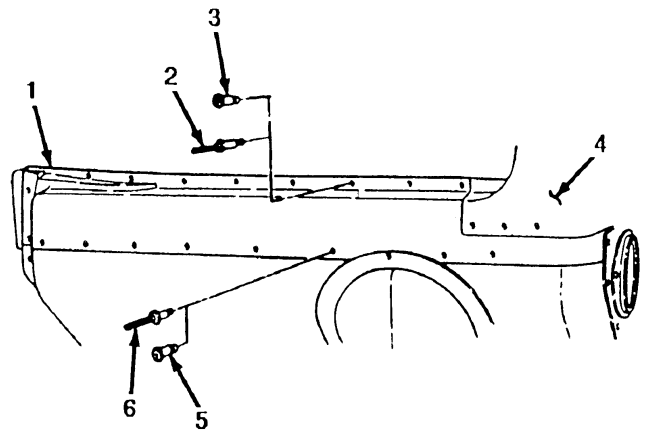

FIGURE 3-32
3. Using a 0.125-inch drill, remove ten rivets (3) that secure rear lower/upper body panel (1) to body panels (4). (see figure 3-32)
4. Using a 0.187-inch drill, remove eleven rivets (5) that secure rear lower/upper body panel (1) to body panels (4).
5. Remove rear lower/upper body panel (1).
6. Remove adhesive residue and clean body panels (4). Do not remove scribed lines marked in step 2.
7. Position 12341083-2 rear lower/upper body panel (1) to body panels (4) and transfer scribed lines marked in step 2. Remove rear lower/upper body panel (1).
8. Using scribed lines marked in step 7, drill ten 0.125-inch diameter holes in rear lower/upper body panel (1).
9. Using scribed lines marked in step 7, drill eleven 0.187-inch diameter holes in rear lower/upper body panel (1).
11. Install rear lower/upper body panel (1) to body panels (4) and secure with ten NSN 5320-01-136-3562 rivets (2) and eleven NSN 5320-01-271-6357 rivets (6). (see figure 3-32)
12. Spot paint rear lower/upper body panel (1) and body panels (4). (Refer to TM 43-0139.)